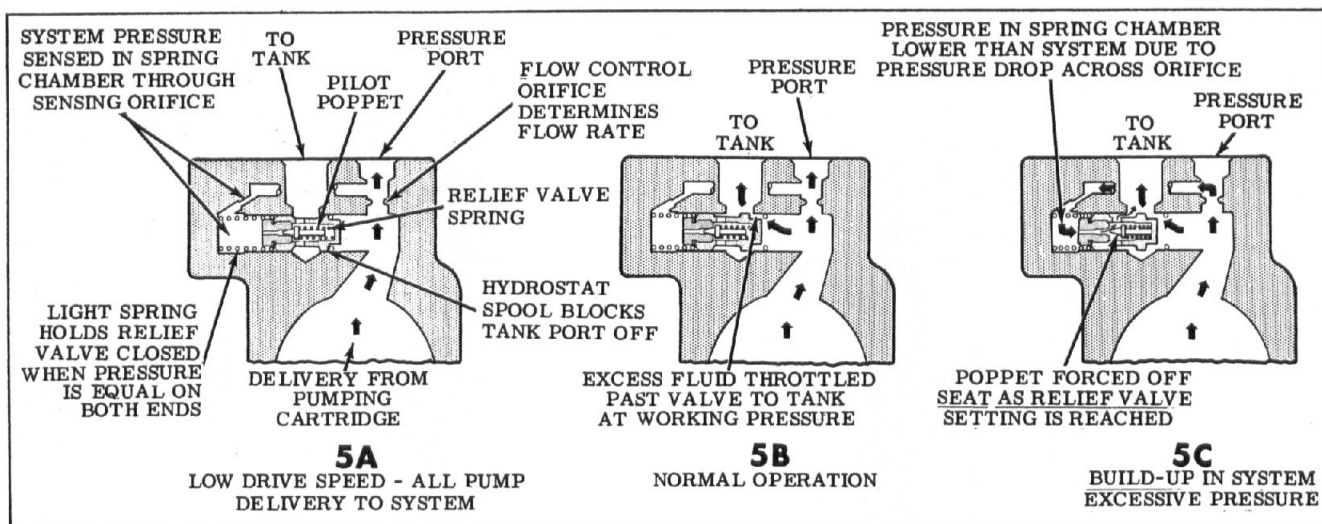

Figure 5 - Flow Control and Relief Valve Operation
In pumps with straight-vane cover-end cartridges, it is possible to incorporate a combination flow control and relief valve in a special outlet cover. As shown schematically in Figure 5, this option consists essentially of (1) a flow control orifice in the pressure outlet port, (2) a spring-loaded hydrostat spool which functions as a pressure compensator and (3) a spring-loaded relief valve poppet, located inside the hydrostat.
1. **Flow Control Operation** - The light spring shown at the left of the hydrostat in Figure 5 is equivalent to approximately 40 psi. In flow control operation, the hydrostat, because of this spring, operates as a balanced compensating piston--maintaining a constant rate of flow across the flow control orifice.